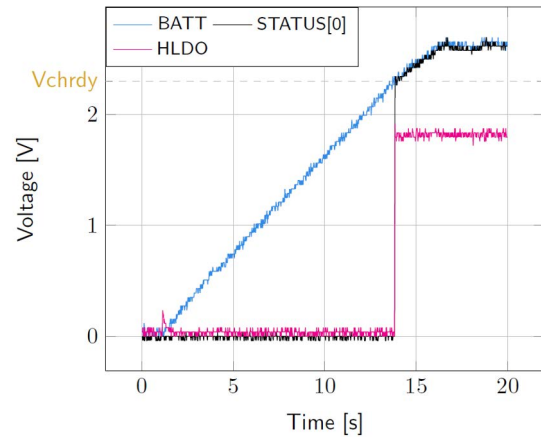

Figure 3: **STATUS[0]** and **HVOUT** evolution with **BATT**
- **BATT**: voltage rises as the power provided by the source is transferred to the storage element (see Figure 3).
- **HVOUT/LVOUT**: regulated when voltage on **BATT** first rises above V_{CHRDY} (see Figure 3).
- **STATUS[0]**: asserted when the LDOs are ready to be enabled (refer to the AEM10941 datasheet “Normal Mode” section) (see Figure 3).